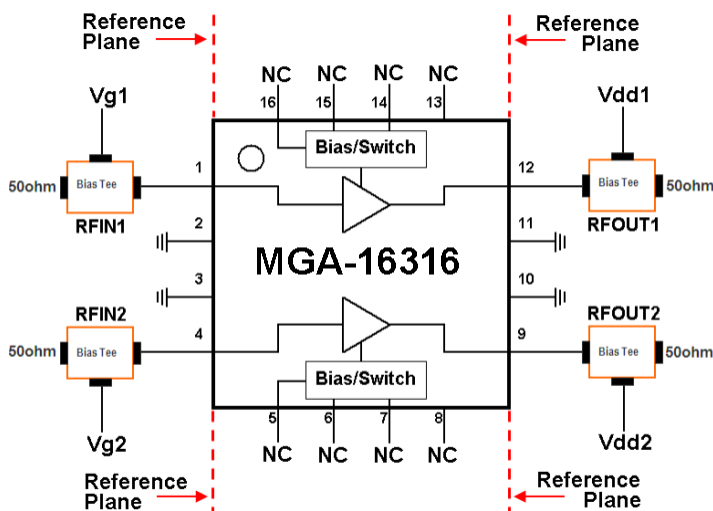

Figure 7. RFinut and RFoutut Reference Plane
2. Idd can be obtained by varying the Vg1/Vg2. Refer to figure 7.
2. Scattering and noise parameters are measured on coplanar waveguide made on 0.010 inch thick ROGER 4350. The input reference plane is at the end of the RFinpin and the output reference plane is at the end of the RFoutpin as shown in Figure 7.
3. Idd can be obtained by varying the Vg1/Vg2. Refer to figure 7.